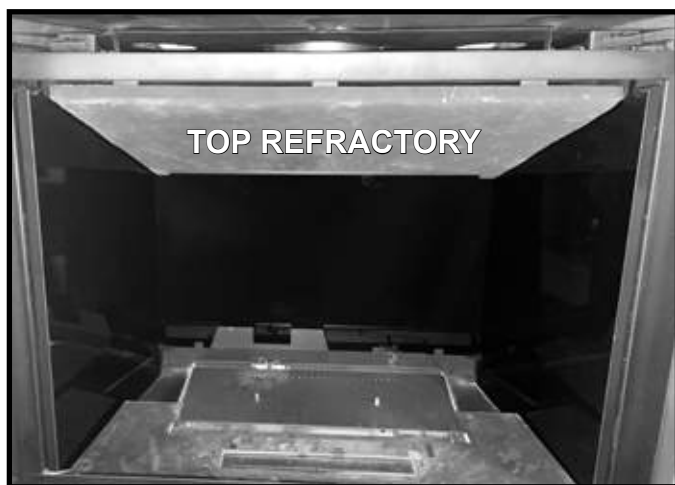

Figure 11.22 Top Refractory Installed
12. Install top refractory panel. Rest it on top of the side glass panels and gently push to the back of firebox until it rests on back refractory panel. See Figure 11.22.